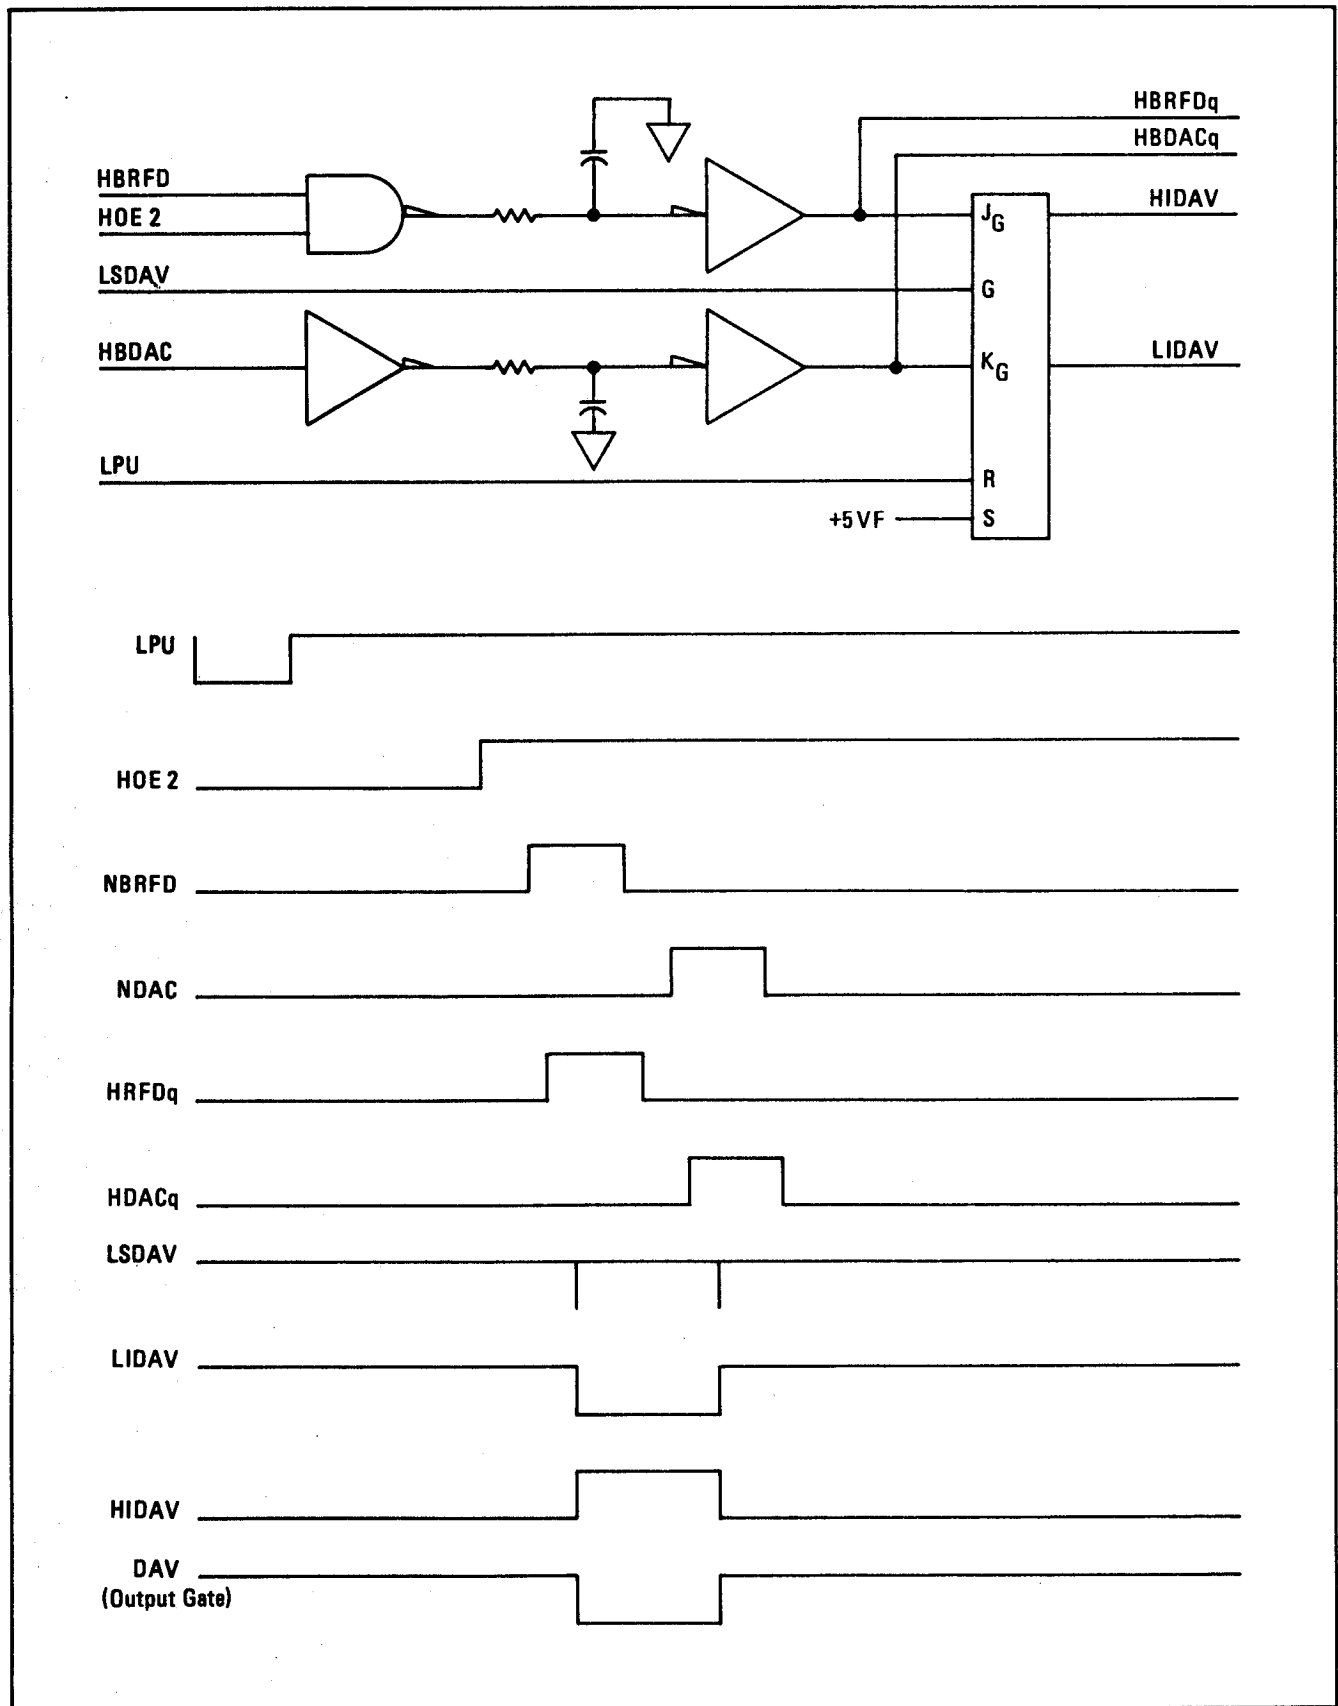

Figure 8-20. Data Valid Status Generator Timing
b. Data Valid Status Generator. The Data Valid Status Generator functions in conjunction with the operating program to generate the timing signals necessary to complete a Power Meter initiated data transfer. A timing diagram of Data Valid Status Generator operation is provided in Figure 8-20. As shown in the figure, the JK flip-flop is initially reset by the LPU input and cannot change state until the Power Meter is addressed to Talk and all listeners on the HP-IB indicate that they are ready to accept data. When this occurs, both the